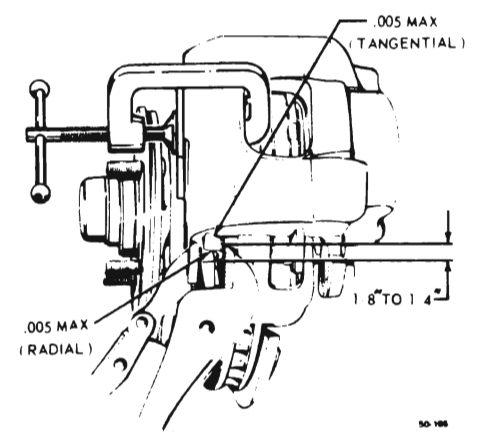

Figure 50-41--Clinching Outboard Shoe
7. Using vise-grip pliers, clinch both upper ears of the outboard shoe to prevent shoe rattle. Locate the pliers 1/8 to 1/4 inch from the outer edge of the shoe ear. See Figure 50-41. After clinching, measure the tangential and radial clearance between the caliper and the shoe ears. If the clearance exceeds 0.005 inch in either direction, re-adjust the pliers and repeat the clinching procedure.